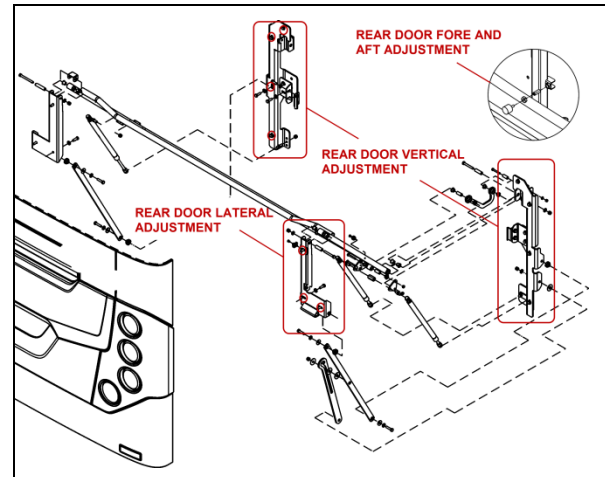

FIGURE 34: ENGINE COMPARTMENT DOOR
1. To adjust the door VERTICAL position, loosen the bolts (4 on each side) holding the door supporting arm and gas springs bracket to the vehicle structure (Figure 34).
2. To adjust the door LATERAL position, loosen the 3 bolts on the right side bracket holding two of the door supporting arm and gas springs bracket to the door (Figure 34).
3. Adjust the door FORE & AFT position by screwing/unscrewing the rubber door stops on each side of the door opening (Figure 34).